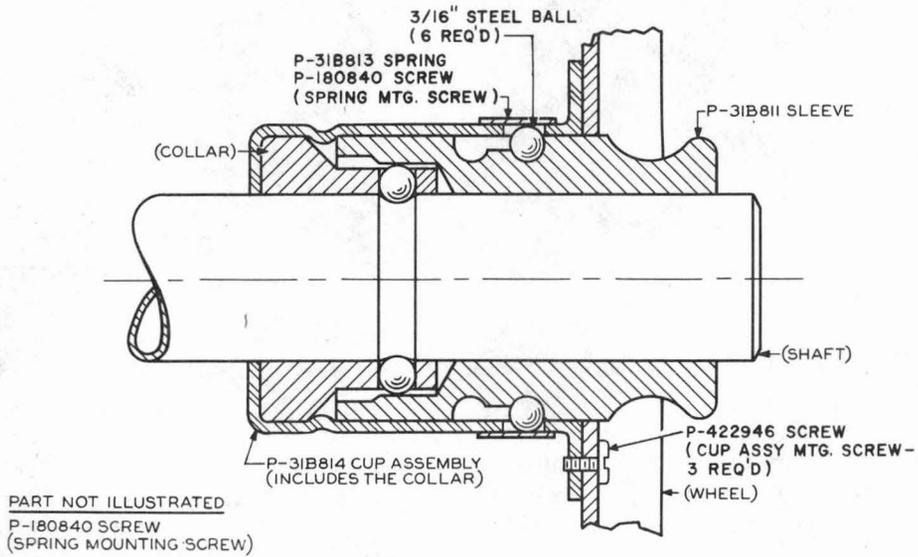

Fig. 3—Locking Assembly
- (1) Before replacing parts of the reel, disassembly is required.
- (2) Grasp the sleeve (Fig. 3), and pull it away from the reel. This unlocks the two halves of the reel.
- (3) To reassemble the two halves of the reel, rotate them as necessary until the plate mounting screws on one half of the reel are in the holes provided in the other half of the reel.
- (4) Lock the halves together by pushing the sleeve inward until it snaps in place.
**4.07 Locking Assembly Parts (Fig. 3)**